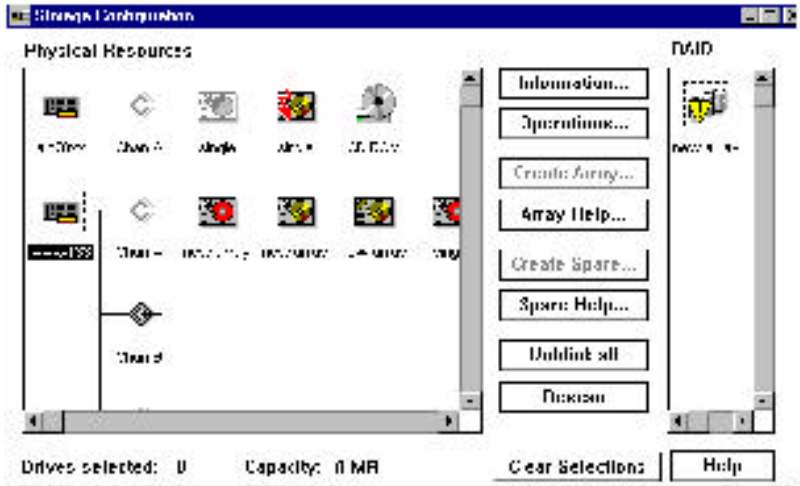

Figure 3-2: Storage Configuration Window
1. Start Adaptec CI/O Management Software and open the Storage Configuration window, as described in *Starting the Program* on **page 89**. This window looks similar to the one shown in Figure 3-2.